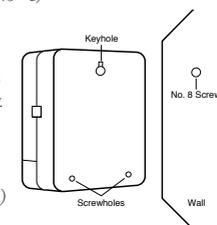

Figure 1
3. Screw a No. 8 screw through each of the two holes at the bottom of the timer box into the wall. (See Figure 1.)